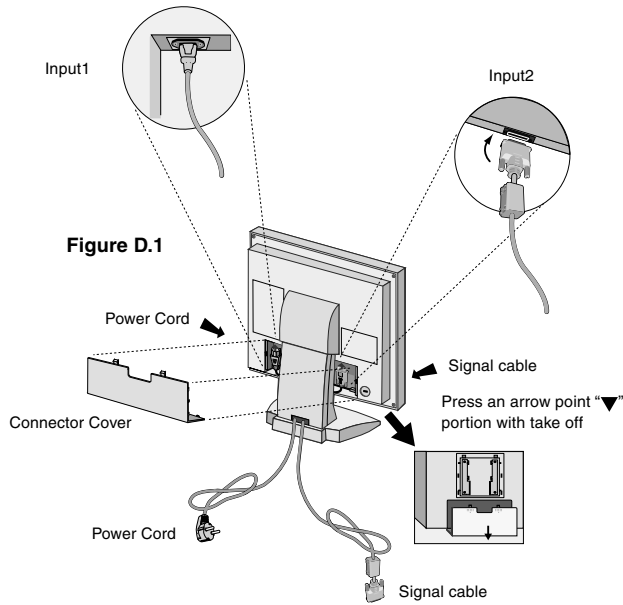

Figure C.1
3. Remove connector cover. Connect the D-SUB signal cable to the connector on the back of the monitor. Place the video signal cable (**Figure C.1**). Replace connector cover.